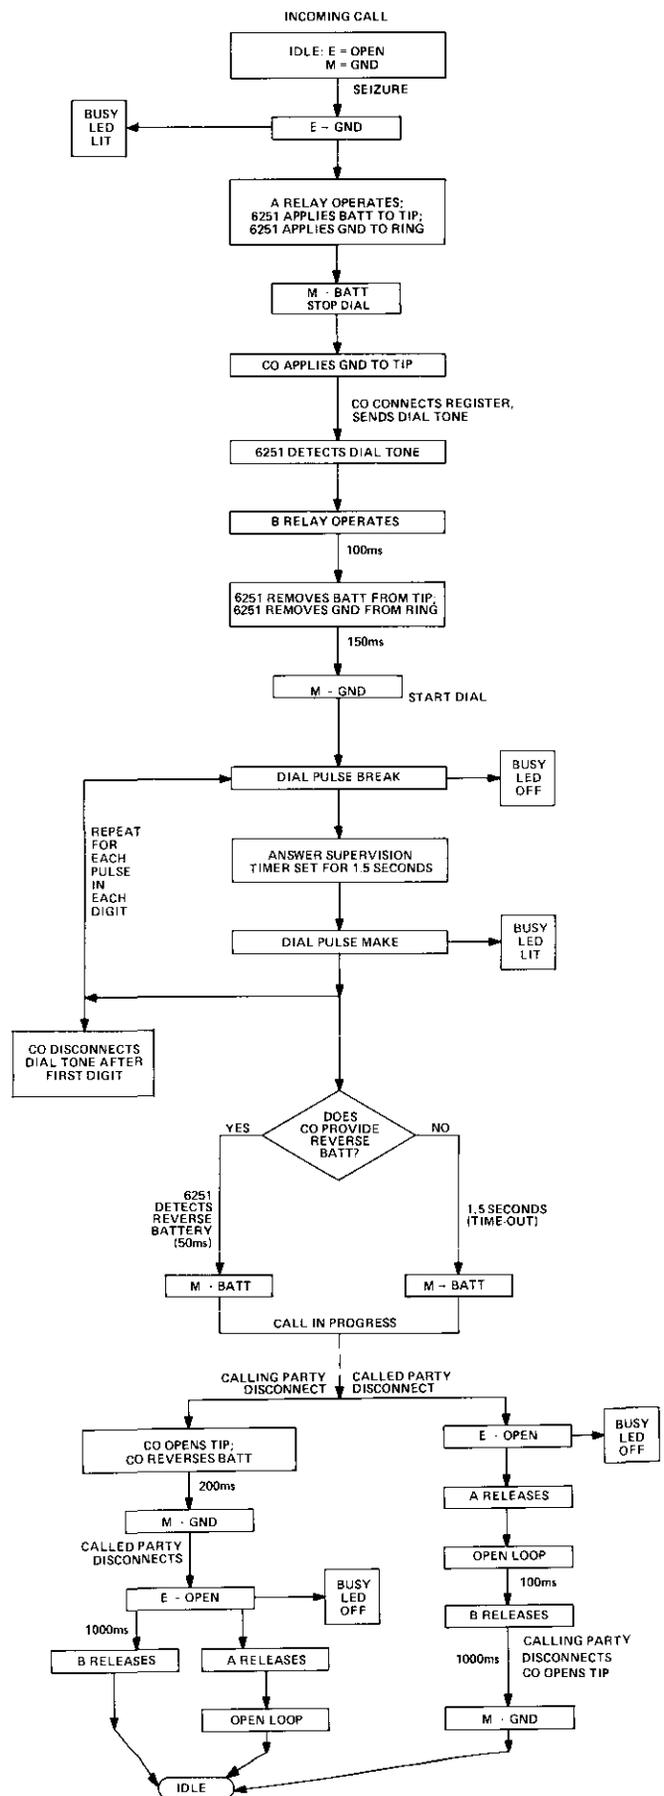

figure 6. Function sequence chart, incoming call, ground-start (dial-tone detection) operation
4.01 In lieu of a conventional circuit description, sequence charts (figures 6 through 9) that illustrate sequential operation of the 6251 SSN Trunk module are presented. Horizontal paths identify events occurring simultaneously, and vertical paths denote sequential events. Dotted lines indicate elapsed time. These charts can be used to determine